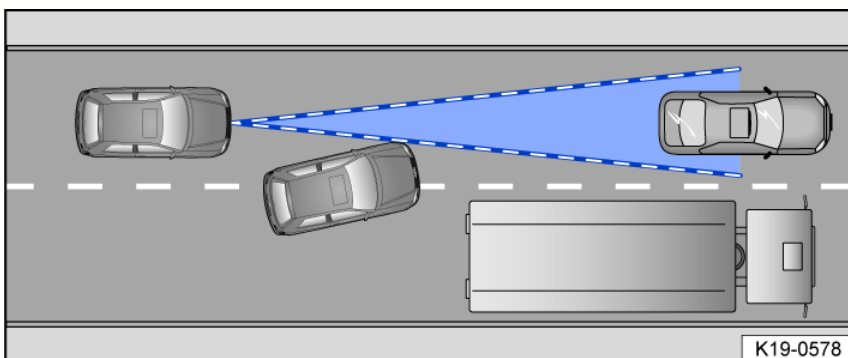

Fig. 130 Changing lanes.
- If vehicles change to your lane close in front of your vehicle fig. 130.